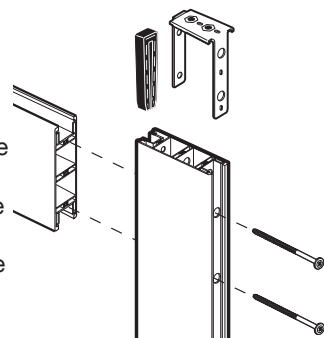

Figure 6
Take one of the Stiles (A), making sure the side with the large holes is facing outward. Insert U bracket (G) into the Top of the stile into the outside channel and the innermost channel. The side of the U clip with the larger holes should be facing the outside edge of the door. The top of the U clip will rest on the top of the stile once inserted. See Figure 6.
Place 2 of the 4" screws (Z) into the 2 holes in the outside of the Stile channel. Make sure they are fully inserted. Slide a reinforcement clip (D) into the channel and over the screw shafts. See Figures 6.